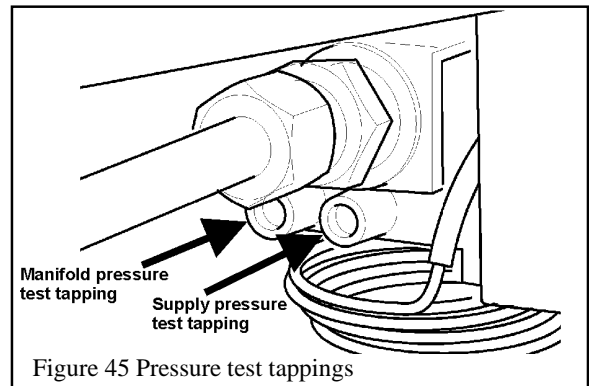

Figure 45 Pressure test tappings
- The pressure test tapping locations are shown in figure 45. A built-in non-adjustable regulator controls the burner manifold pressure. The correct pressure range is shown in the table in section 3 of this manual. The pressure check should be made with the burner alight and the thermostat at its highest setting. See lighting instruction section for full operating details.